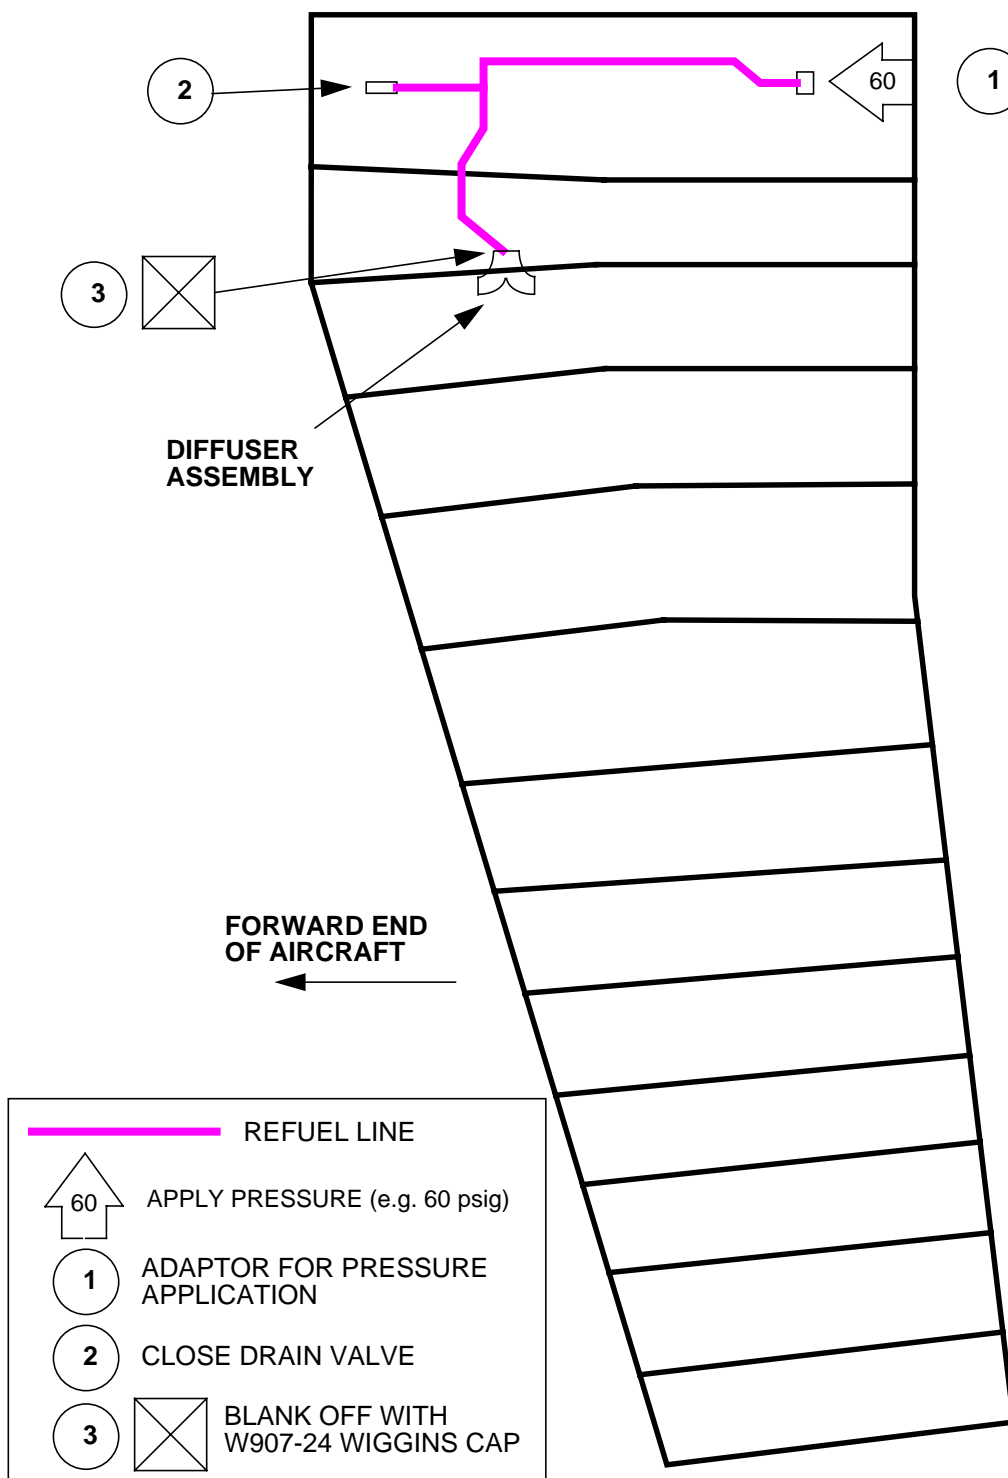

Figure 2 - Refuel Line Pressure Test
5.3.2.1 Isolate the **refuel line** as follows (see Figure 2):